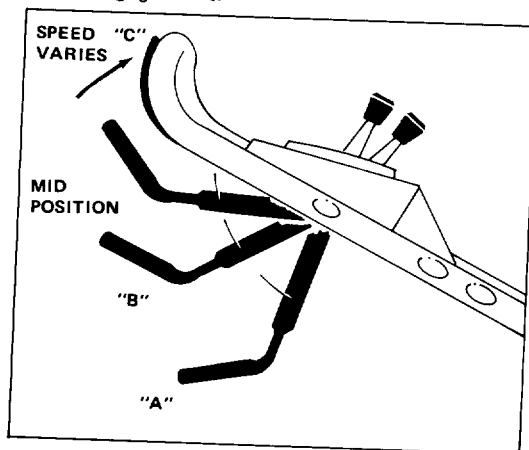

Figure 11
5. **BLADE AND TRACTION OPERATION** (Fig. 11) — Move control bar down to "A" and raise to engage blade "B". Move ground speed control to desired setting and squeeze control bar against handle "C" to drive. Ground speed varies, depending on space between control bar and handle. To disengage traction drive, but keep blade engaged, gradually release control bar to mid position. To self-propel with blade disengaged, simply squeeze control bar against handle, eliminating downward movement necessary for blade engagement.